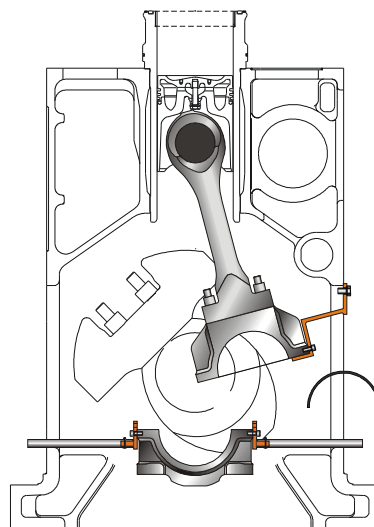

Fig. 5 Extracting of upper bearing (상부 베어링의 분리)
11. Turn the crankshaft to 45° approximately as shown in fig.5